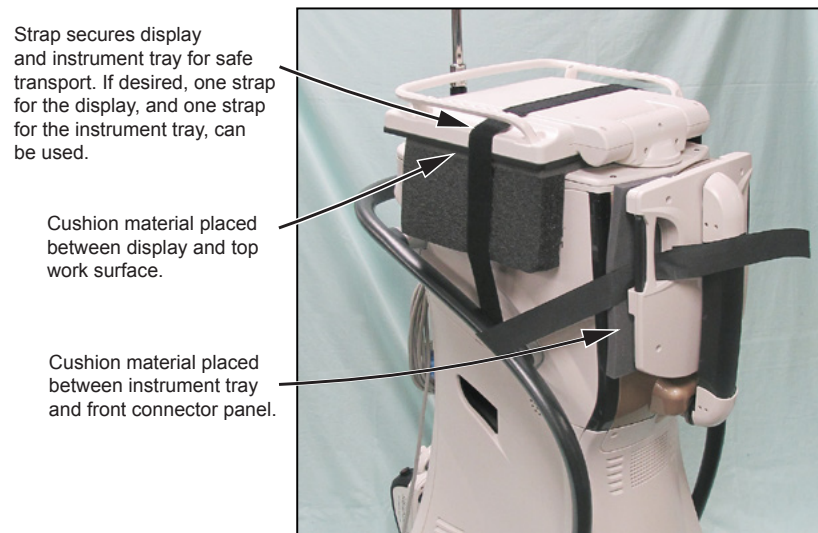

Figure 1-6 Example of Properly Packing the System for Transit
- 7.1 Using the photo shown in Figure 1-6 as an example, secure the display screen and instrument tray as necessary in preparation for transit. **NOTE: Materials from the original shipping container are used in this example.**